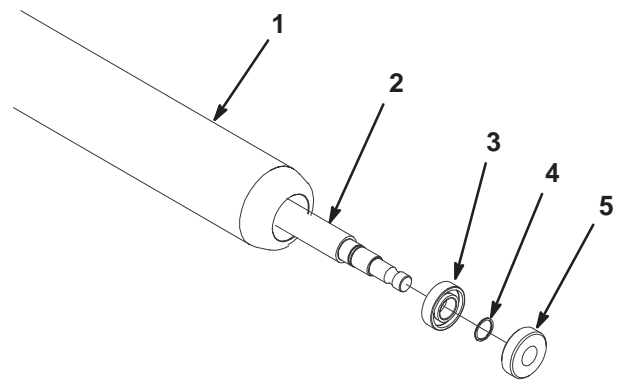

Figure 17
1. Remove retaining ring (Fig. 17). Repeat on other end.